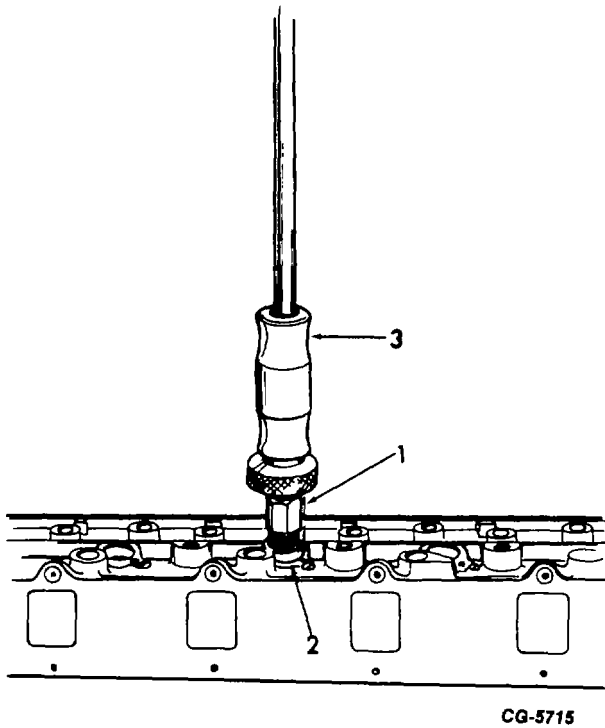

Figure 21. - Removing Nozzle Sleeve
- a. Remove nozzle sleeve (2), Fig. 21) with slide hammer (3) and nozzle sleeve puller adapter (1). (See Tool List for tool number).